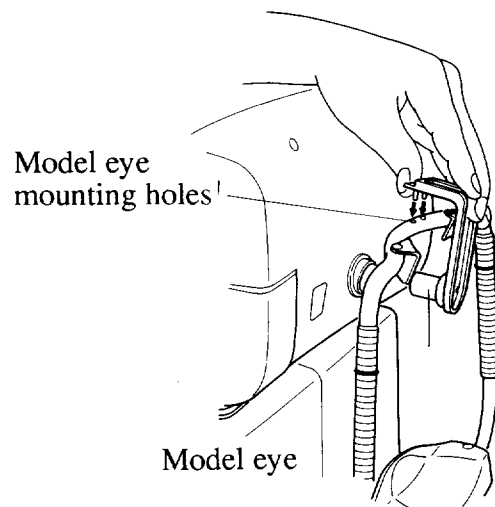

Figure 2-10
- (2) Measure the model eye provided.
- ① Set the model eye in front of the window by inserting the two pins of the model eye into the mounting holes on the forehead rest (see Figure 2-10).